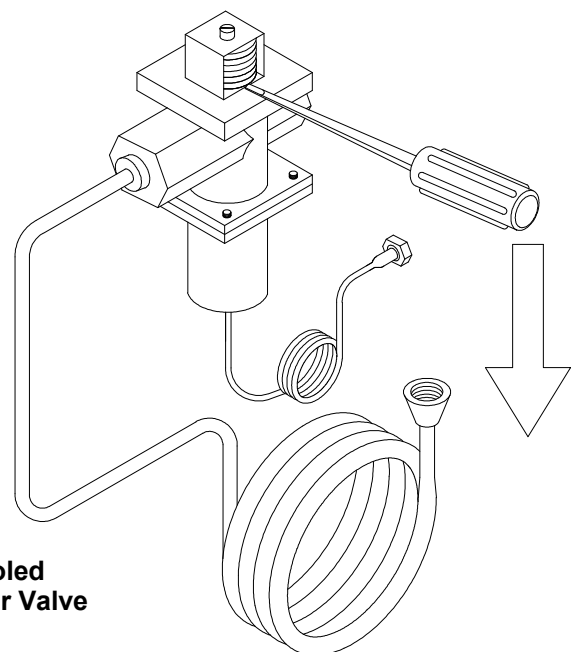

Fig. 29
6. **On water-cooled units, disconnect the water lines. Use compressed air to blow out all remaining water in the condenser. Insert a screwdriver (Fig. 29) to open the water valve.**